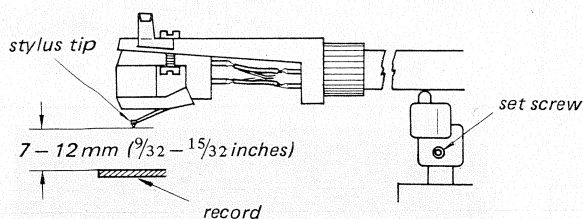

Fig. 3-1.
3. Confirm that the clearance between the stylus tip and the record is 7 – 12 mm as shown in Fig. 3-1. If necessary, adjust the height of the arm lifter by loosening the set screw.
2. Lift the cueing lever and confirm that the clearance between the stylus tip and the record is 7 – 12 mm as shown in Fig. 3-1. If necessary, bend the seesaw plate and adjust the height of the tonearm by turning the adjustment screw.